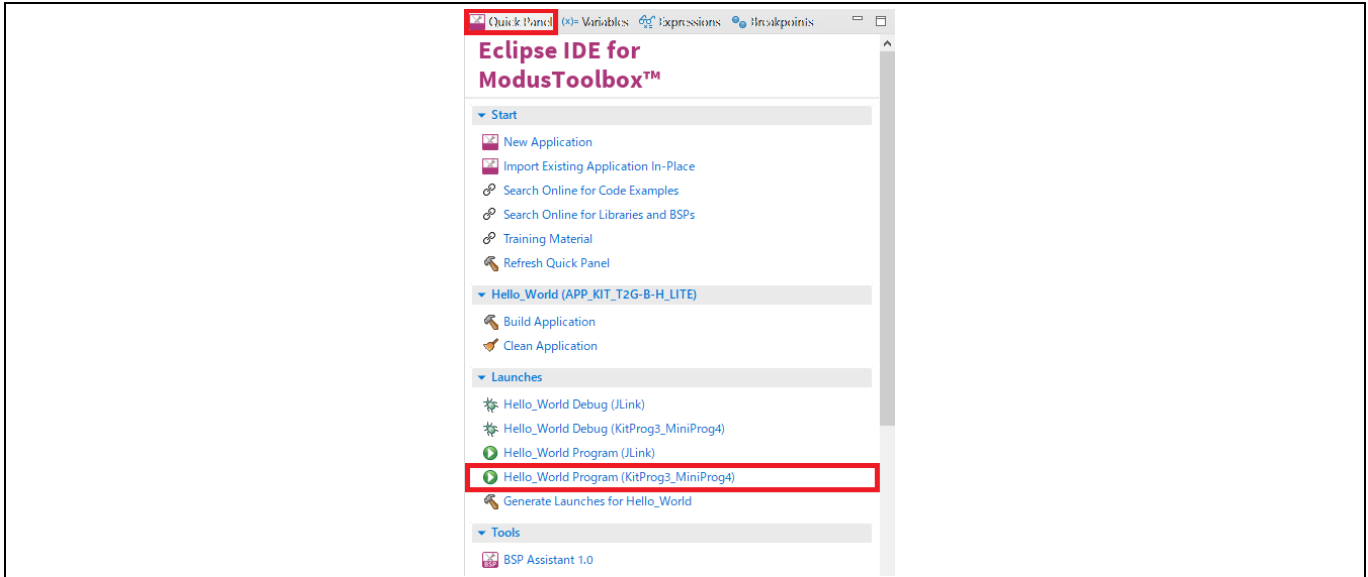

Figure 11 Programming in ModusToolbox™ software
- To build and program a TRAVEO™ T2G-B-H MCU application, in the Project Explorer, select **<App_Name>** project. In the Quick Panel, scroll to the Launches section and click the **<App_Name> Program (KitProg3_MiniProg4)** configuration as shown in Figure 11.